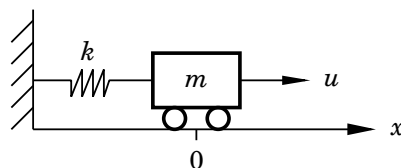

Figure 2.2 The moving cart in Problem 2.2.
2.2 The moving cart in Figure 2.2 with position x and velocity v is affected by two forces: a spring force $F_s = -kx$ and an external force $F_e = u$.